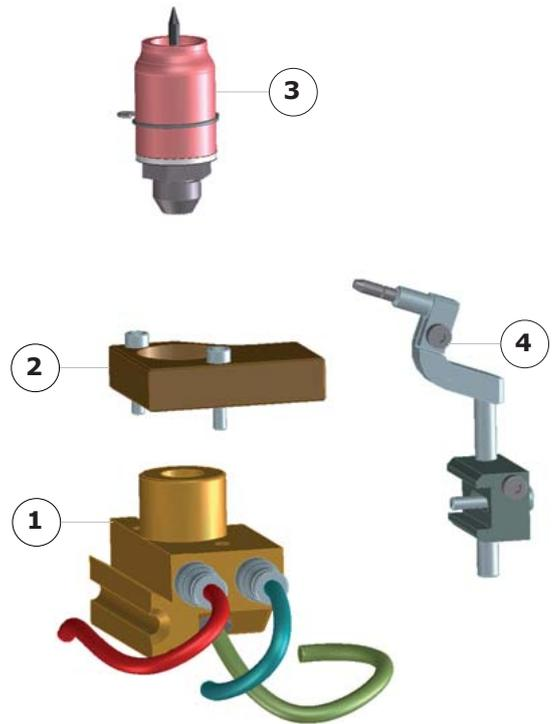

Fig.5.19 - Composition of a torch kit
- A torch (Fig. 5.19 - 1).
- A wire insulator (Fig.5.19 - 2).
- A gas lens assembly (Fig.5.19 - 3).
- A wire adjustment (Fig.5.19 - 4).